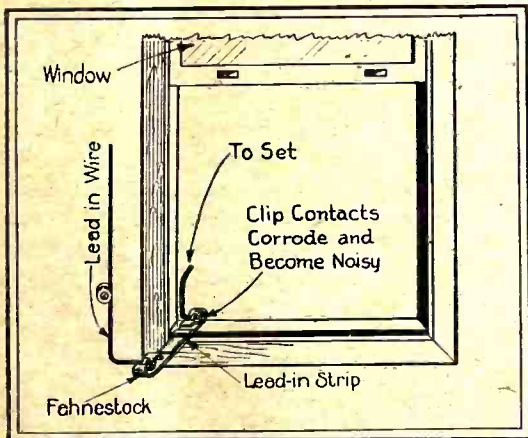
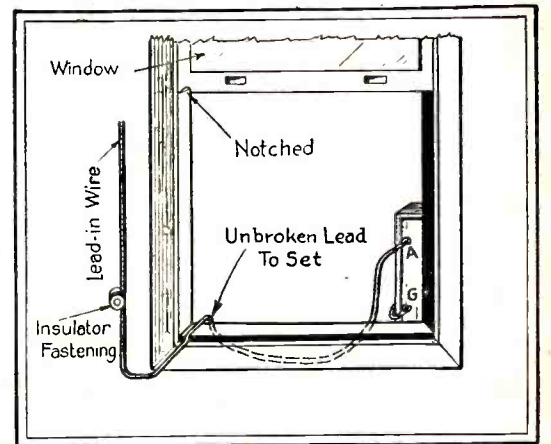

Fig. 1A
Fig. 1B
**T**HE lead-in window strip, used in the majority of radio installations, makes a neat and simple job of bringing the aerial into a house; unfortunately, after the strip has been in use for a short time, troubles arise. Most of these devices have Fahnestock clips, which are fastened by means of rivets to the insulated copper strip. The parts of the strip which are exposed to the elements, quickly corrode; and this produces high resistance in the electrical contact between the strip and the clip. The clip loses its tension, and the wire comes loose; thus causing "static." (See Fig. 1A.)
small portion of the wooden (or metal) sill, and tack the wire down, out of the way of the window. (Fig. 1B). The writer knows many Service Men who use this method to obviate future calls.
The most injurious effect of gas in a tube, probably, is that of shortening the tube's life. When plate voltage is applied to a gassy tube, the electrons emitted by the cathode are attracted toward the plate at very high velocities and collide with atoms of any gas which they encounter (Fig. 1A). This produces ionization; that is, when an electron is traveling with sufficient speed, it may knock one or more electrons out of an atom, which it thus splits into two oppositely-electrified parts (Fig. 1B). One of these is the negatively-charged free electron, or electrons; and the other the positively-charged nucleus, which then becomes an "ion." The latter is much more massive—relatively speaking—than the electron. The hydrogen ion weighs 1,845 times as much as its electron, and the ions of other gases are heavier in proportion to their atomic weights. (The atomic weight of hydrogen is 1, of helium 4, of nitrogen 14, of oxygen 16, and of neon 20.)